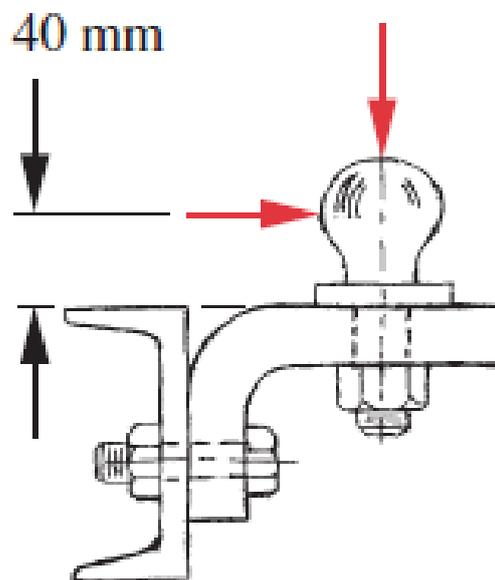

FIGURE P15-1
- *†15-4** The trailer hitch from Figure 1-1 (p. 11) has loads applied as shown in Figure P15-1. The tongue weight of 100 kg acts downward and the pull force of 4 905 N acts horizontally. Using the dimensions of the ball bracket in Figure 1-5 (p. 14), draw a free-body diagram of the ball bracket and find the tensile and shear loads applied to the two bolts that attach the bracket to the channel in Figure 1-1. Size and specify the bolts and their preload for a safety factor of at least 1.7.